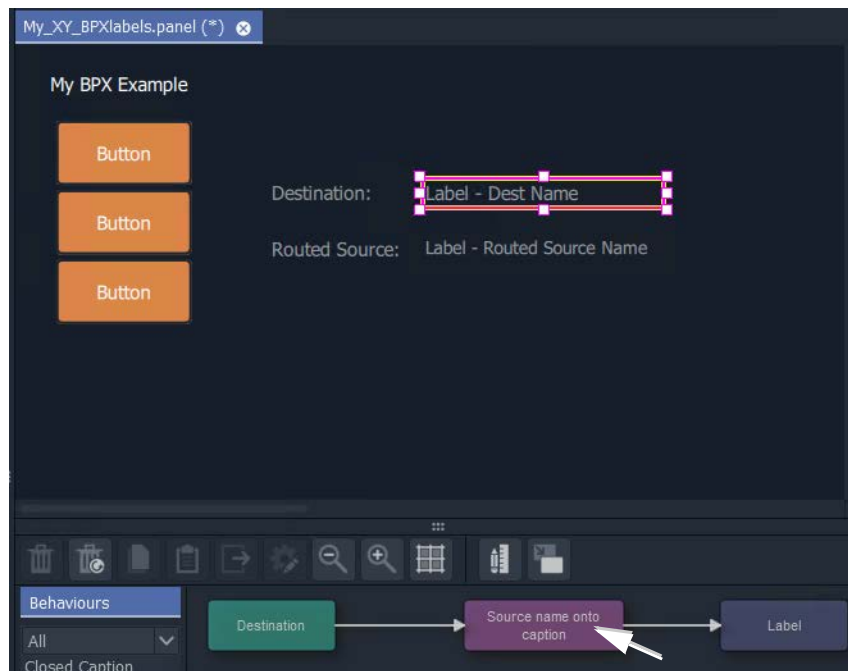

Fig. 13-57: Select a Label
- 8 Select the Label to see its Behaviours and Bindings. See Figure 13-57.